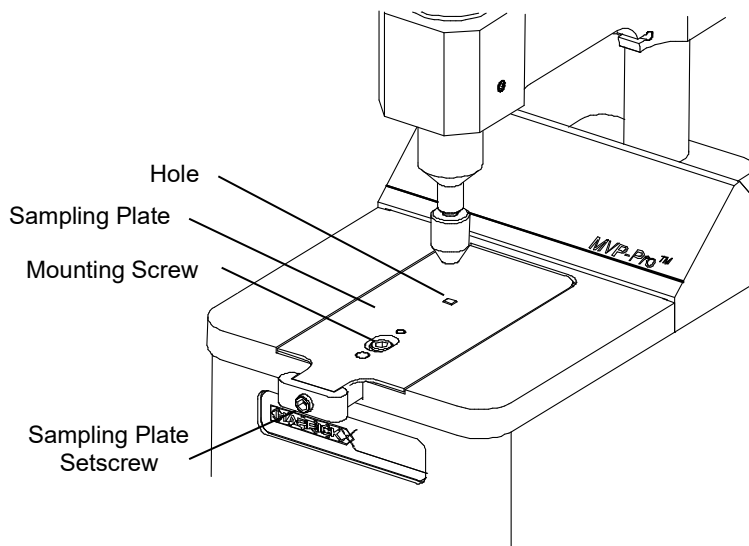

Figure 16 • The External Reflection Sample Holder
- Using the supplied 7/64" ball driver, loosen and remove the mounting screw on the sampling plate to release the sampling plate (Figure 16).